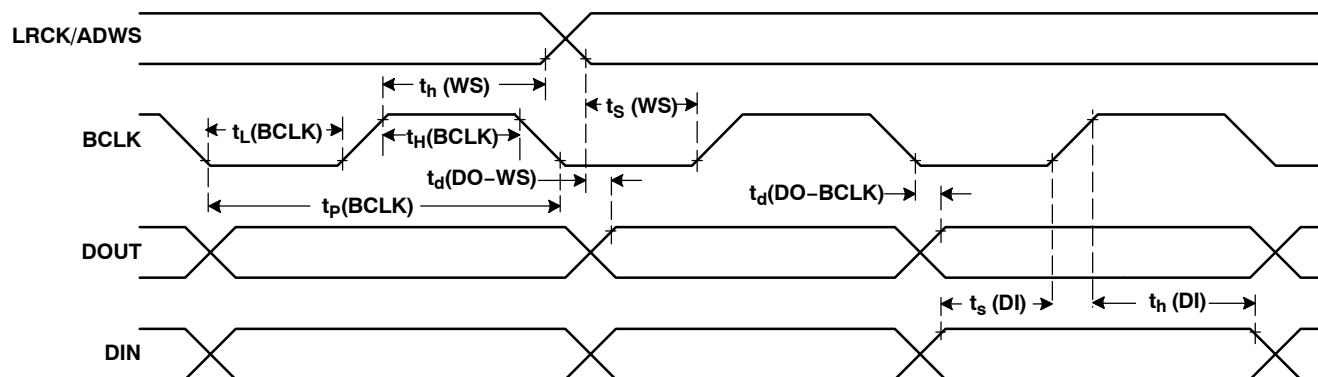

Figure 3. I2S/LJF/RJF Timing in Slave Mode
**TYPICAL TIMING REQUIREMENTS (FIGURE 3)**All specifications at 25°C, DVDD = 1.8 V (1)